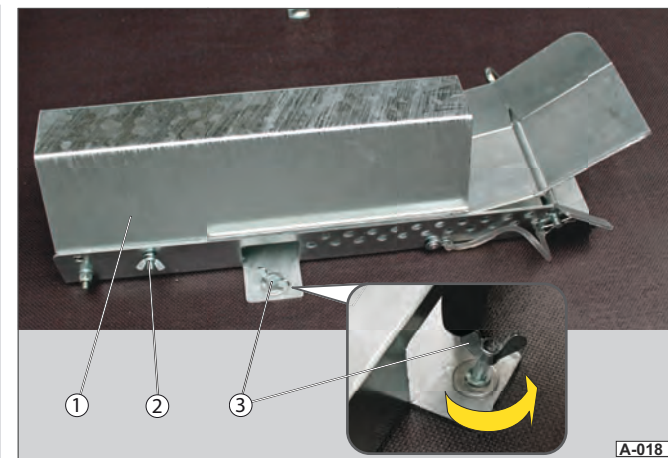

**Fig. 17** Front wheel fastened
- ▶ Make sure that the rocker (Fig. 17 /2) is all the way around the front wheel (Fig. 17 /1) - adjust the rocker if necessary.